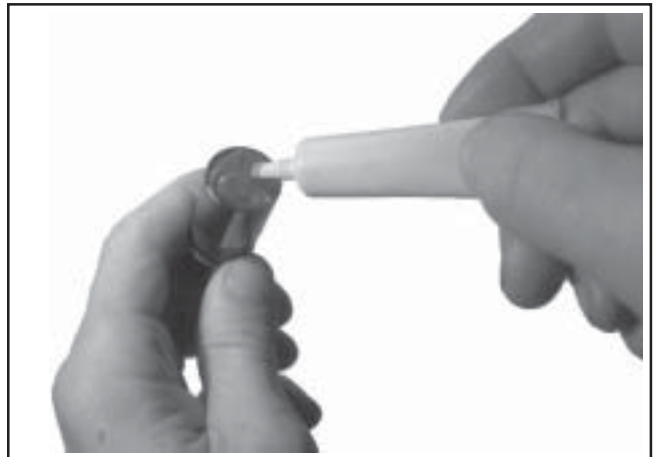

Figure 11-30. Applying Camshaft Lubricant to Bottom of Lifters.
2. Apply camshaft lubricant (see Section 2) to the bottom surface of each lifter. See Figure 11-30. Lubricate the hydraulic lifters and the lifter bores in the crankcase with engine oil.